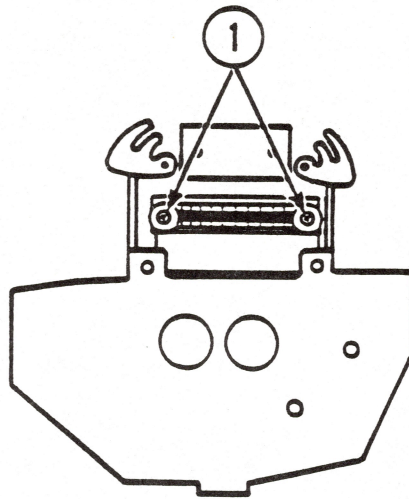

FIGURE 4
6. Remove the two screws holding the dot head connector (see Figure 4, #1).